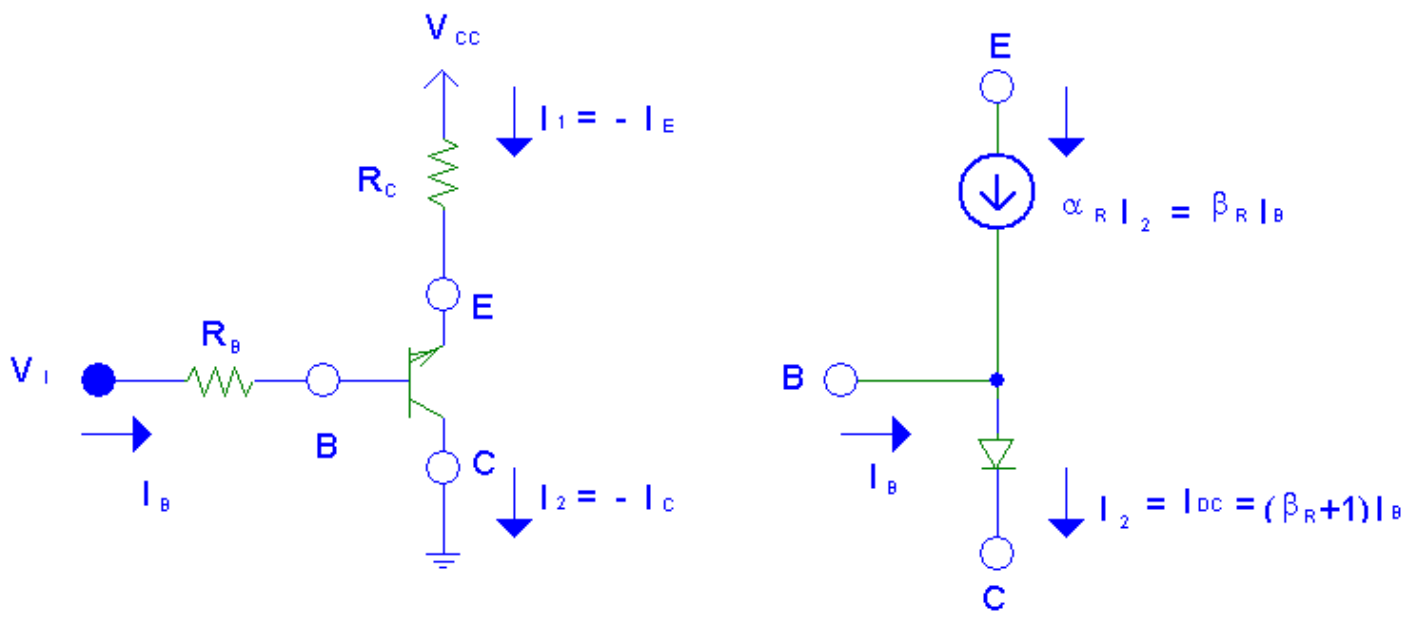

Figure 2
The breakpoints of the voltage transfer characteristic indicate where the transistor-operating region changes from cutoff to active and from active to saturation. When we use the transistor inverter as a logic gate, we have to insure that the input/output threshold levels will represent LOW and HIGH levels without any ambiguity. At the input, the threshold voltage for the LOW level is called V_{IL} ; for the HIGH level, it is called V_{IH} . For the output voltage, the voltage levels V_{OL} and V_{OH} represent the low and high threshold voltages, respectively. These voltage levels are shown graphically in Figure 2.
2. **Noise Margins** Notice in Figure 2 that the output levels are compatible with the input levels in that V_{OL} and V_{OH} are located safely within the acceptable input LOW and input HIGH regions, respectively. The input LOW threshold voltage V_{IL} is 0.6V , but the output low-level voltage V_{OL} is 0.2V . Hence there is a safety margin of $V_{IL} - V_{OL} = 0.4\text{V}$. This difference determines the low-level noise margin (NML) for the circuit. That is,
we note from Figure 2 that an increased noise-margin capability is obtained as either V_{OH} and V_{OL} move away from each other, or as V_{IH} and V_{IL} move toward each other. Thus, with a larger logic swing or a narrower transition width, the noise margins will improve. The transition width is defined by the equation
To compute the fan-out N for the circuit shown in Figure 3, it should be noted that with a HIGH level at V_{in} , transistor Q_0 is saturated and the V_{out} will be at a LOW level. With a $V_{CE,sat}$ of 0.2V for Q_0 , all the load gates will be OFF. Now consider a LOW level at V_{in} . Transistor Q_0 will be OFF with a resulting HIGH level at V_{out} . In this case it is required that the V_{out} be sufficient to ensure all the load gates Q_1 through Q_N are saturated. Each load gate added to the output of the first inverter at the collector of Q_0 will require a certain base current to cause saturation of the load transistor. The entire base current for the load gates flows through the collector resistor R_C from the 5V supply to the inputs of the load gates. An increase in the number of load gates, and consequent increase in total base current, therefore lowers the voltage V_{out} . A limit in the fan-out is set when V_{out} is insufficient to cause the transistor of the load gate to saturate. Recall from Figure 2 that this voltage is V_{IH} and is equal to 1.40V.
It can easily be seen that as N is increased, V_{OH} decreases. With no loading gates V_{OH} is simply V_{cc} as shown in Figure 2. However, when gates are added to the output of the first inverter, V_{OH} will decrease as shown in (9). As a result, the high-level noise margin (NMH) and the logic swing will also decrease.